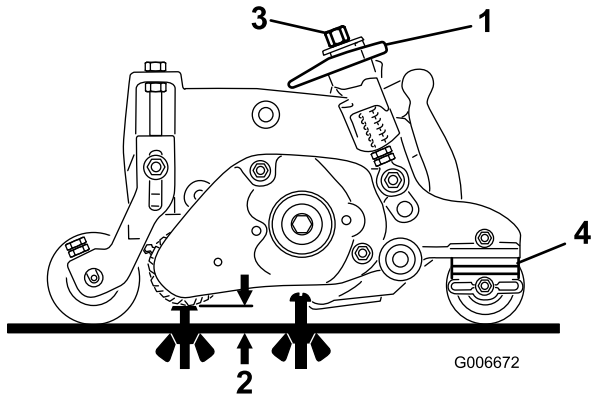

Figure 46
1. Make sure the groomer is set to the desired height of groom (HOG) (Figure 46).